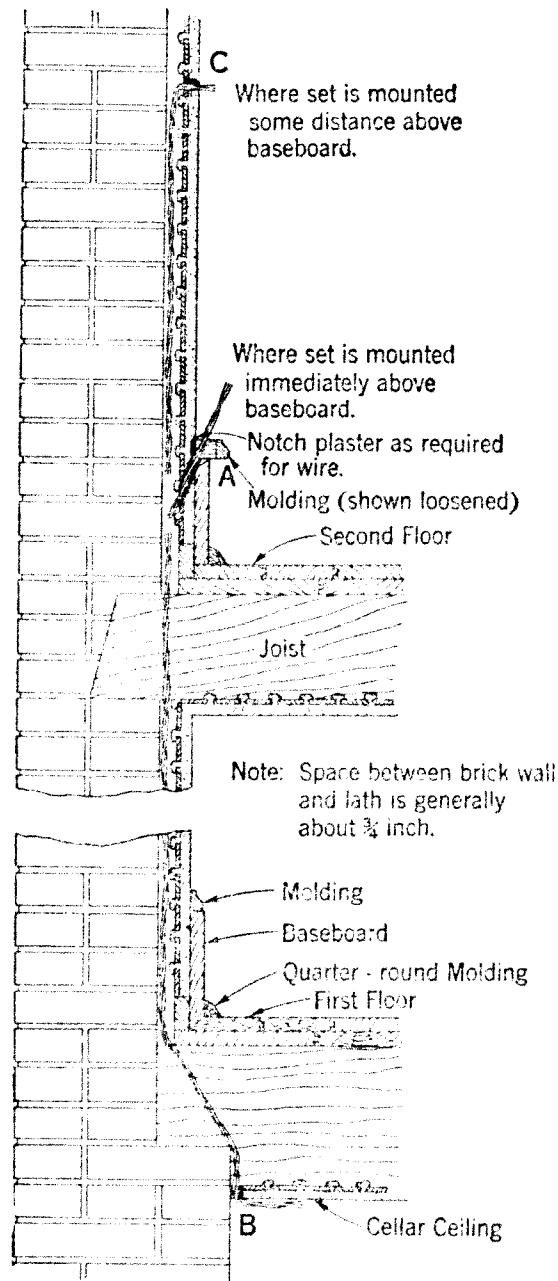

Fig. 1.
2.05 In general no obstructions will be found in fishing from the second floor to cellar in brick or balloon frame houses. A typical example of a wall without obstructions is shown in Fig. 1.
2.06 Set Mounted on Outside Wall Immediately Above Baseboard: Loosen molding above baseboard as outlined in paragraph 2.03 and bore a 3/8 inch hole through wall as shown at Point A of Fig. 1, exercising care to avoid damage to the exposed surface of the baseboard and the molding.
2.07 Tie twine on one end of a short piece of ferret. Fish ferret through hole and then let it drop to cellar. Leave about two feet of slack in twine and then tie end of twine to hammer handle or equivalent. Locate ferret in cellar by measurement or sound. Measurement may be secured from any exposed pipe which runs directly from cellar to second floor, or by measuring the distance from wall. If difficulty is encountered in locating end of twine, having someone pull it up and let it fall several times will indicate its location on foundation sill. If cellar has ceiling, it will be necessary to bore through ceiling (Point B, Fig. 1). Work a fish tape with hook on end around in hole until twine is hooked and then pull it out through hole. If conditions on the job will permit, lay wire out on floor so that it can be pulled into hole without becoming tangled. Use this method where there is no possibility of any person tripping over wire. In this case the wire should be fed from the coil while it is being pulled. Tie wire to cord and pull out through hole on second floor.
2.08 **Set Mounted on Outside Wall Some Distance Above Baseboard:** Bore hole in wall at location of set, such as at point C on Fig. 1, and then proceed as outlined in paragraphs 2.06 and 2.07.